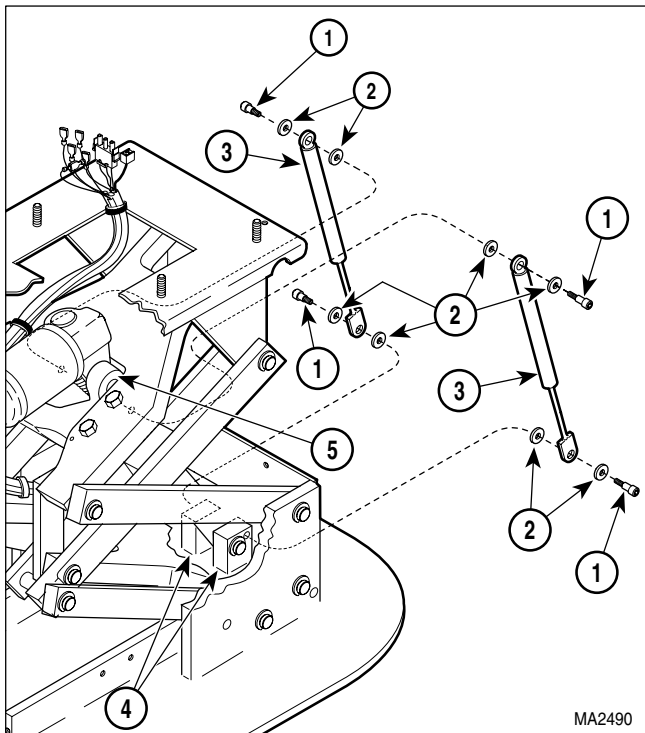

Figure 4-16. Gas Spring Removal / Installation
- (6) Remove two shoulder screws (1, Figure 4-16), four washers (2), and gas spring (3) from brackets (4 and 5). If removing both gas springs, repeat step for remaining gas spring.
- (1) Coat shoulder screws (1, Figure 4-16) and washers (2) with grease.